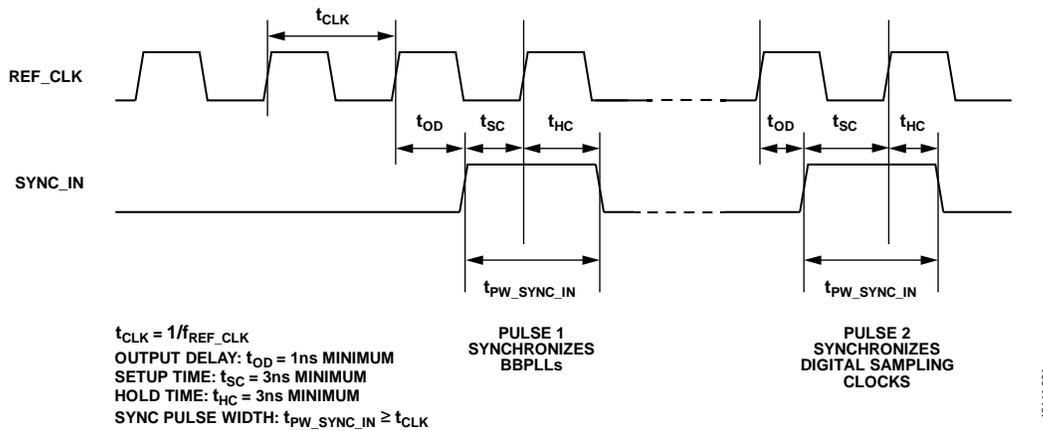
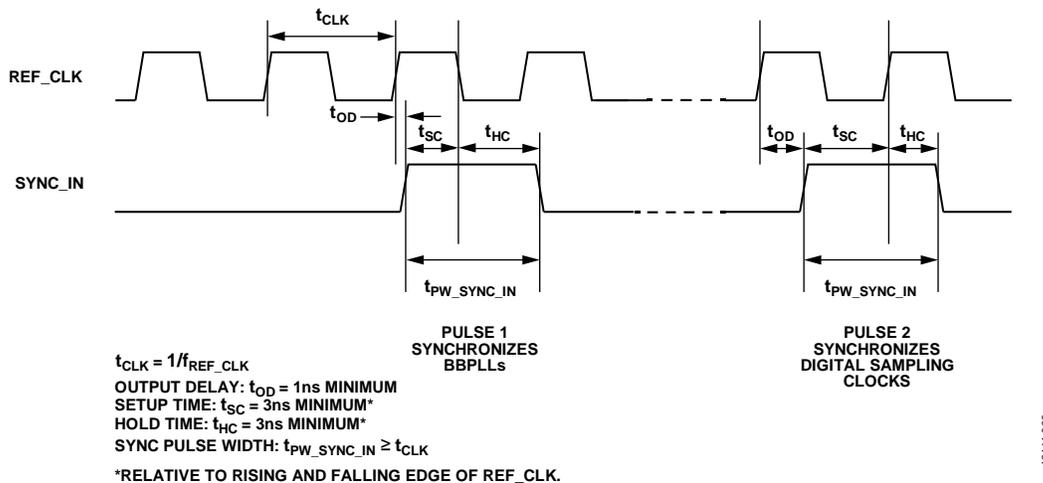
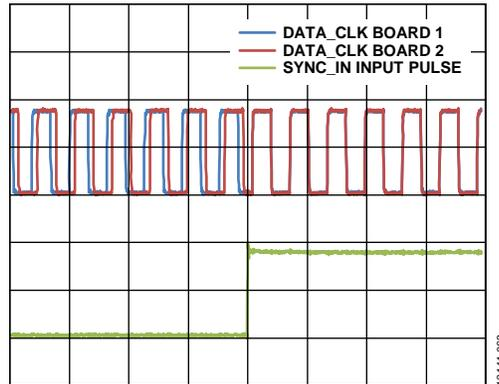

Figure 56. AD9364 BB Multichip Synchronization SYNC_IN Pulse Timing (BBPLL Internal REF_CLK Set to 1×)
Figure 57. AD9364 BB Multichip Synchronization SYNC_IN Pulse Timing (BBPLL internal REF_CLK Set to 2×)
Figure 58. Clock Signals of AD9364 IC1 and IC2 Before and After Second SYNC_IN Pulse (Initial Phase Random)
5. Input a rising-edge pulse to the SYNC_IN pin of each device. The timing requirements of this signal are illustrated in Figure 56 for the case where the internal BBPLL REF_CLK is a buffered version of the external REF_CLK and in Figure 57 for the case where the internal BBPLL REF_CLK is 2× the external REF_CLK. MCS cannot be used if the 1/2× or 1/4× options are selected for the internal BBPLL REF_CLK. Note that the SYNC_IN pulse rising edge must have a delay from the REF_CLK input to XTALN to ensure synchronization. This action synchronizes the BBPLL of each device to the same reference clock.
Data synchronization can be verified by observing the DATA_CLK signal of each chip simultaneously using an oscilloscope. The waveforms will overlap after successfully completing the sync procedure. Similarly, the CLK_OUT pin on each device (when enabled) can be monitored to determine if the ADC clocks are synchronized. Figure 58 illustrates the DATA_CLK signals of two devices before and after the second SYNC_IN pulse occurs. Note that the SYNC_IN pulse is much longer in duration than the DATA_CLK signals in this example. As long as the setup and hold times meet the requirements listed in Figure 56 and Figure 57, this is an acceptable combination because the SYNC_IN input is edge detected by the REF_CLK reference.